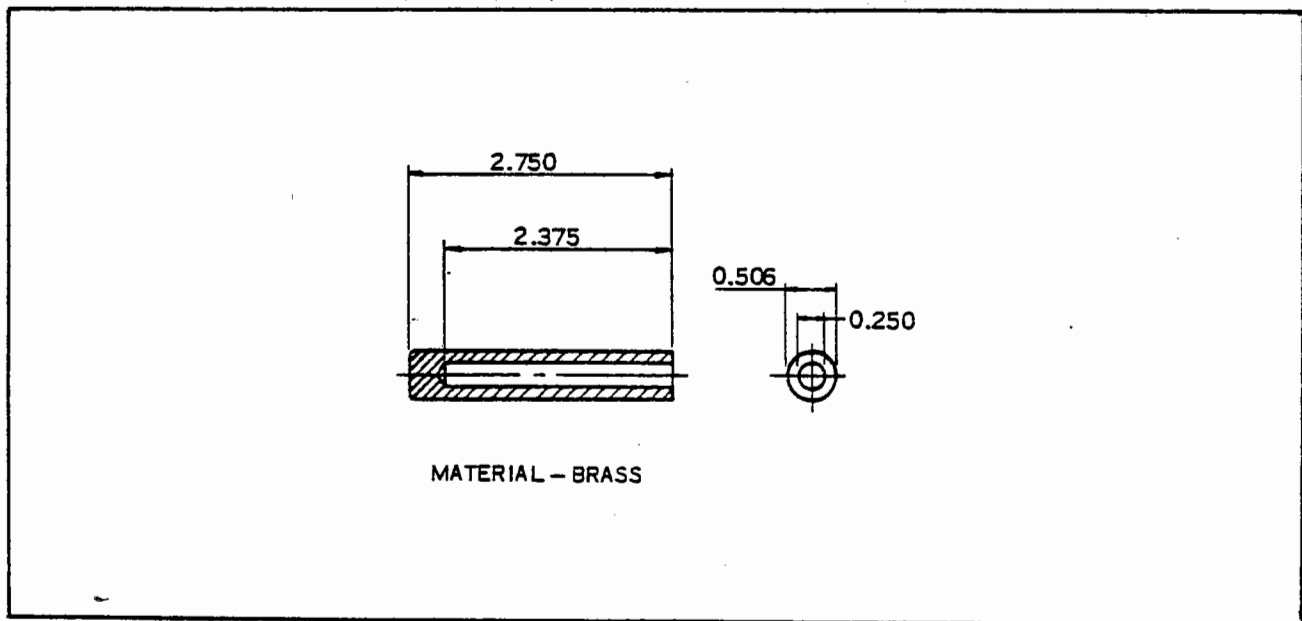

Figure 74-27. Ferrule Seating Tool
- H. Provide a back up support for the cover and seat the ferrule using the 11-7074 Ferrule Seating Tool (refer to Figure 74-27) and a mallet. Ferrule must be driven straight into the cover and fully seated.